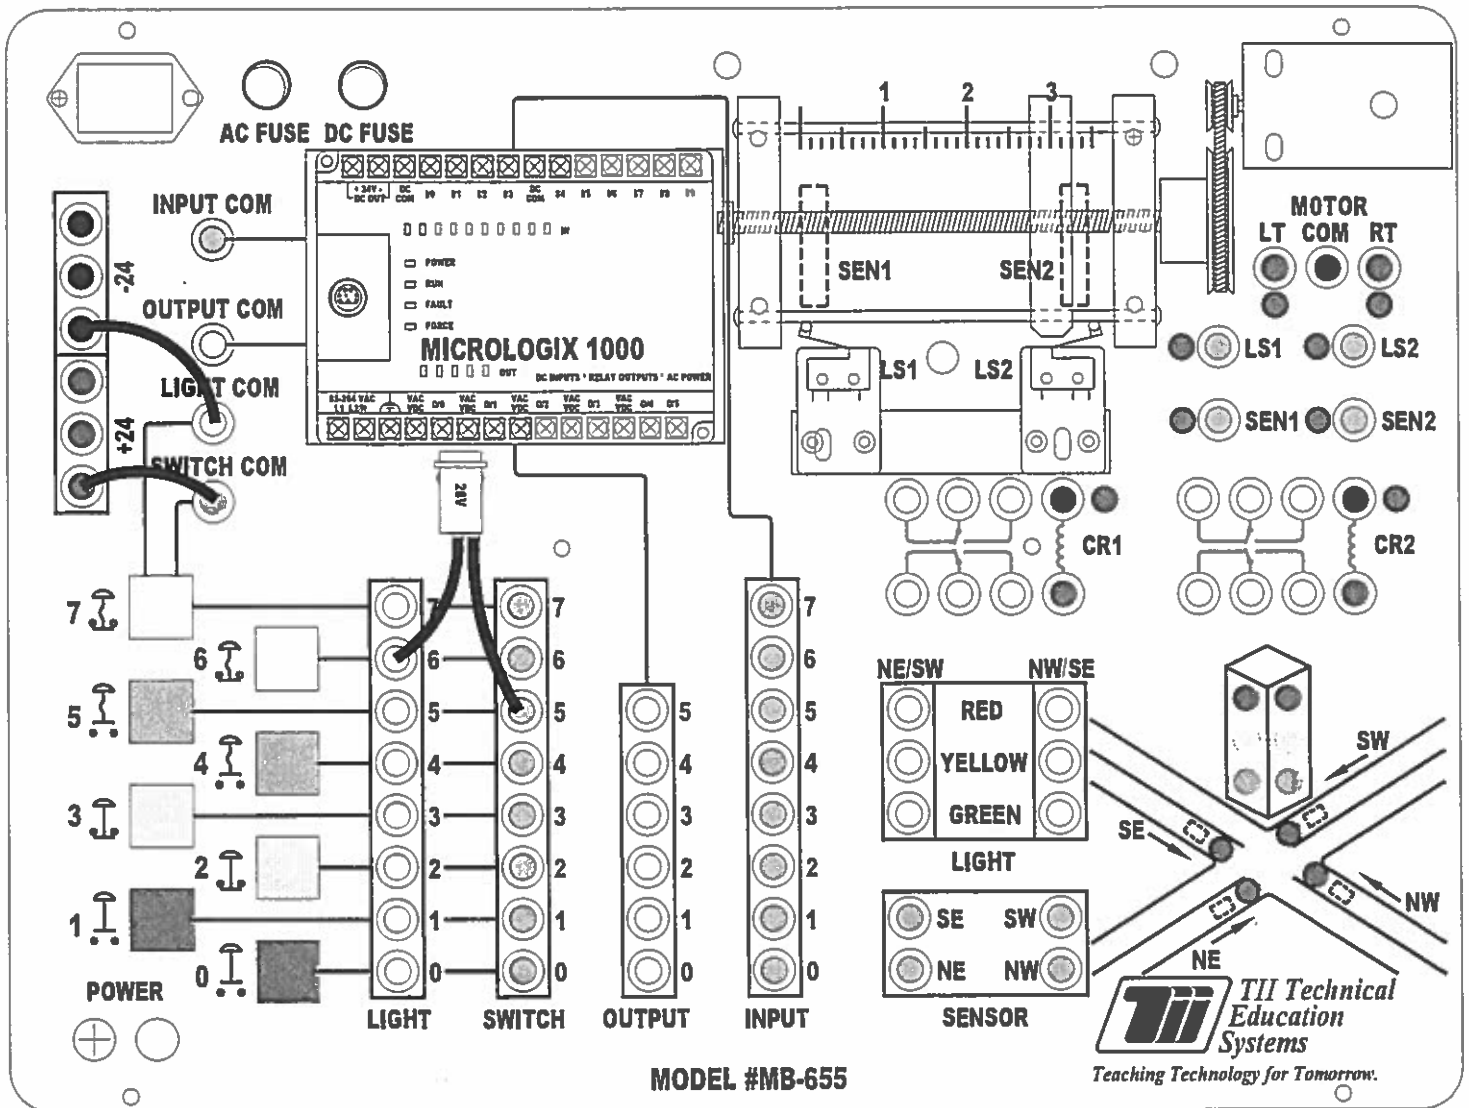

Figure 3-6
3. Using the jumper wires and the independent light bulb, construct the circuit shown in Figure 3-6.